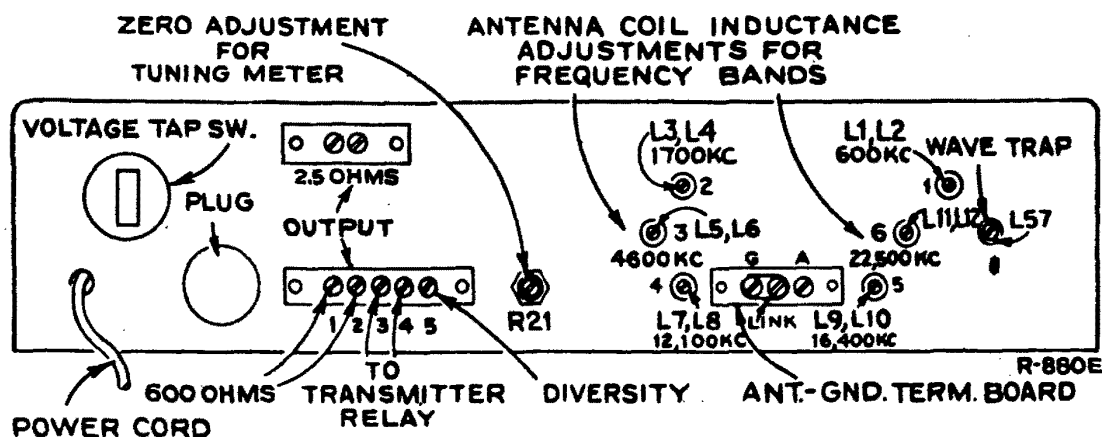

Figure 3—Diagram of Rear of Chassis
The antenna terminal board is provided with three terminals (see Figures 3 and 6), two of which may be joined together with a link. When a single wire antenna is used, the link should be closed and the antenna connected to "A." If a ground is used, it should be connected to "G." If a transmission line or balanced input is used, the link should be opened and the line connected to terminal "A" and the center terminal.
Power Pack—The power pack mounted on the receiver chassis consists of a power transformer, rectifier tube RCA-5Y3GT, and filter. A tap switch is provided on the rear apron for changing the power transformer voltage tap. (See Figures 3 and 6.) The voltage for which the switch is set may be read directly on the switch. The instrument may also be operated from 6V. "A" and 250 to 300 V. "B" batteries, or Vibrator Power Supply Unit MI-8319.
Speaker—Terminals for connection of a loud-speaker are indicated in Figures 3 and 6. The output transformer is designed to match a speaker having 2.25 ohms impedance.
2. Transmit position which gives energized tube filaments, open plate circuits, and shorted terminals for transmitter relay on the speaker terminal board on the back of the chassis. Connect relay to these two terminals for transmitter operation. See Figure 3.